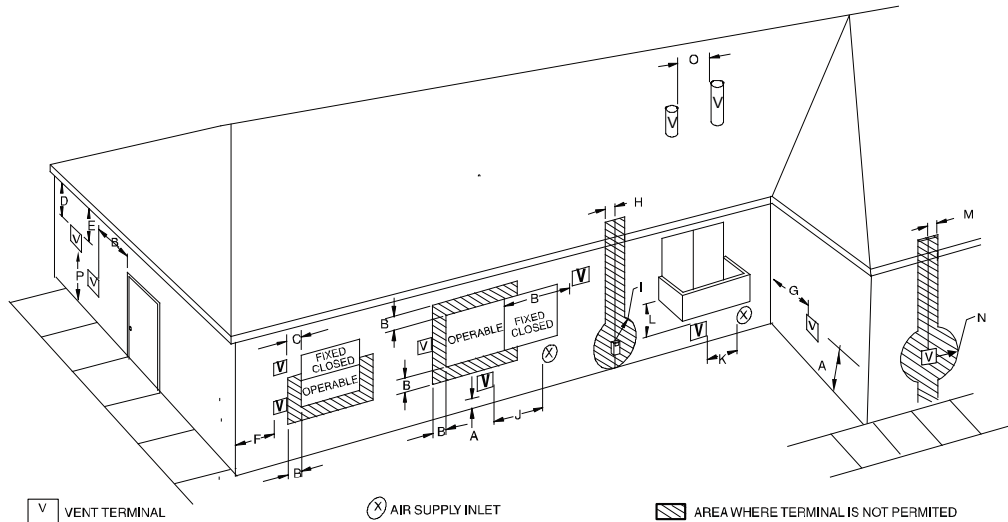
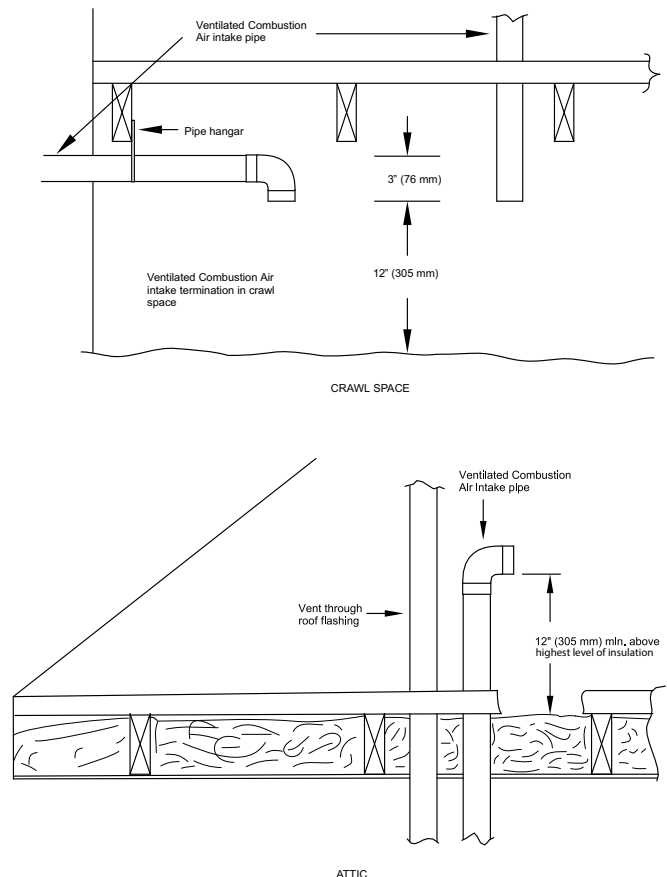

Fig. 43 – Ventilated Combustion Air and Non-Direct Vent Termination Clearance
Fig. 48 – Vent Terminations for Ventilated Combustion Air
In a ventilated combustion air option, the vent terminates and discharges the flue products directly to the outdoors similar to a direct vent system. See Fig. 43 for references to clearances required by National code authorities.
outdoor atmosphere. Air for combustion must be supplied as described in the Air For Combustion and Ventilation Section. Do not use an abandoned chimney to supply outside air to the furnace. See Fig. 43 for references to vent clearances required by National code authorities.
For vent termination clearance, references to National codes are shown in Fig. 42 for Direct Vent/2-Pipe system and Fig. 43 for Ventilated Combustion Air/Non-direct Vent/1-Pipe system. For exterior termination arrangements, refer to Fig. 40 for Direct Vent/2-Pipe system and Fig. 41 for Ventilated Combustion Air/Non-Direct/1-Pipe system. Contact Local code authorities for other requirements to and/or exemptions from the National codes shown in the figures.
1. Comply with all clearance requirements stated in Fig. 42 or Fig. 43 per application.
The vent pipe for a Ventilated Combustion Air System must terminate outdoors. See Fig. 43 for references to vent clearances required by National code authorities. Allowable vent terminations are shown in Fig. 41. The combustion air pipe terminates in a well-ventilated attic or crawl space. Follow the clearances as shown in Fig. 48.
The vent pipe for a Non Direct Vent (1-pipe) system must terminate outdoors. See Fig. 43 for references to vent clearances required by National Code authorities. Allowable vent terminations are shown in Fig. 41.